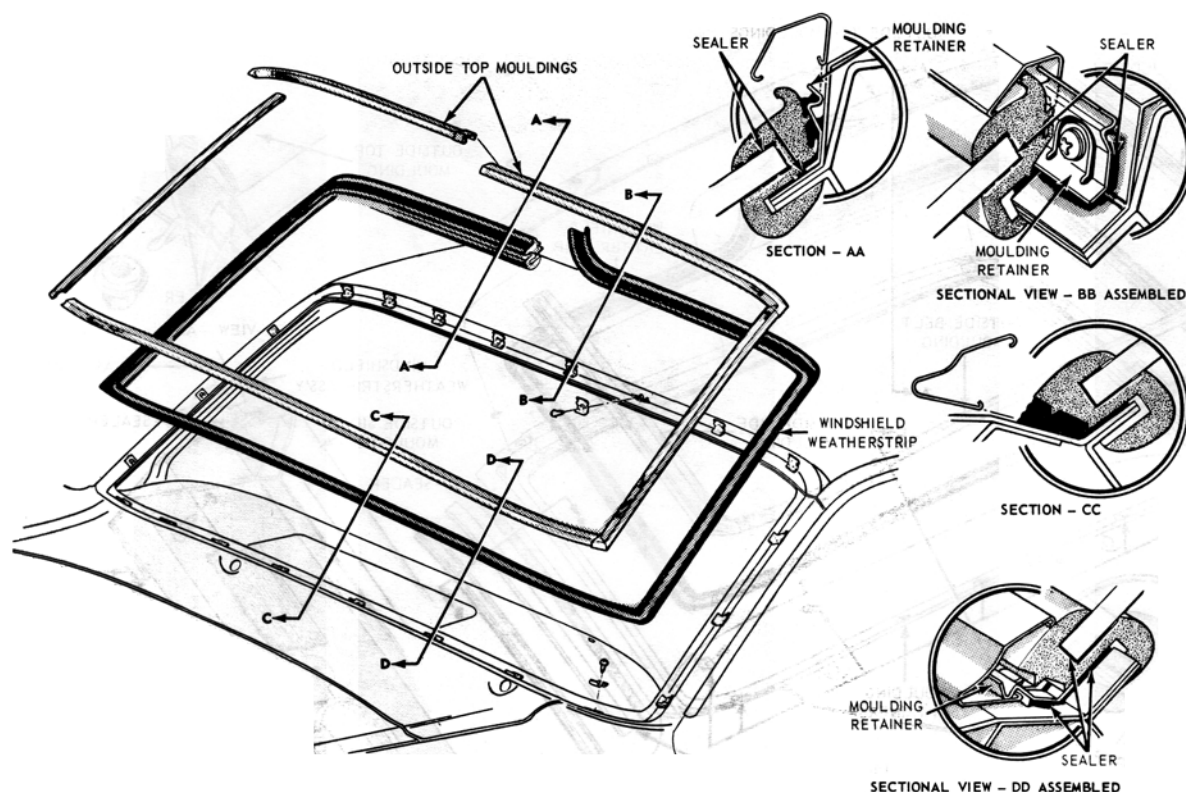

FIG. 19—Windshield Installation—Mustang Body Types 63, 65
1. Using Tool T64P42430 R or L, remove the top left and right outside windshield mouldings (Fig. 19).
4. Using Tool T64P42430 R or L, remove the windshield outside belt mouldings (Fig. 19).
8. Install the outside belt moulding (Fig. 19) by positioning it and snapping it over its clip retainers.